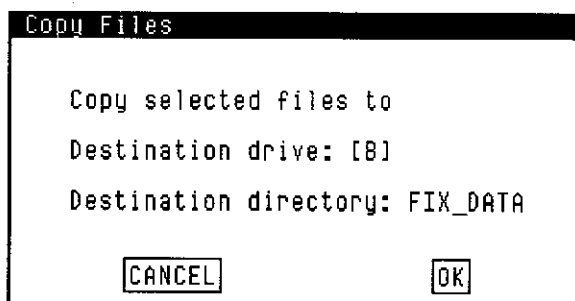

Figure 8-4. Copy Files Window
- 5b. If multiple files were highlighted, the Copy Files window, Figure 8-4, is displayed. Input the drive and directory where the files are to be copied. The same file names are used. Then click on [OK] to copy the selected files and remove the Copy Files window from the display.